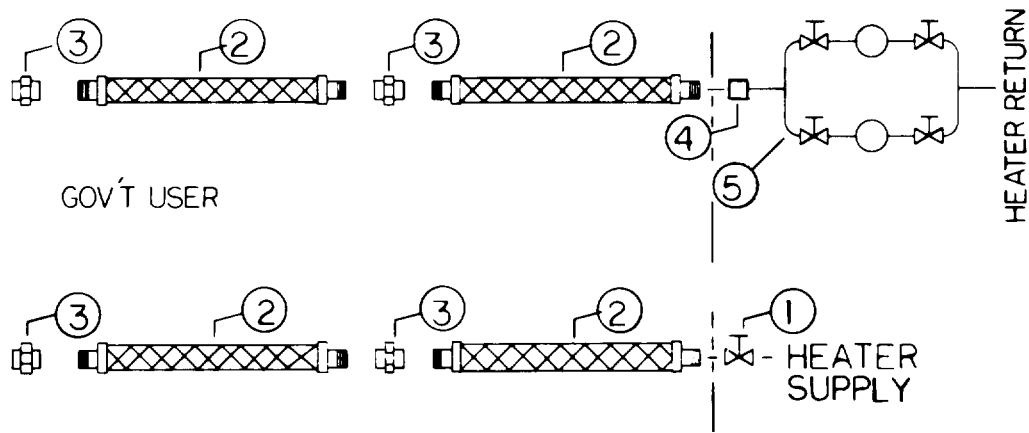

Figure 9. ASSEMBLY OF HEAT TRANSFER HOSE & UNIONS,
- b. Steel Threaded Unions. The four steel unions are used to connect the four liquid transfer hoses to the external user and the hot fluid heater. Refer to Fig. 9 and install as required.
2. Install the four unions on the four heat transfer hoses, as shown in Figure 9.
3. Connect two heat transfer hoses together as shown in Figure 9.
4. Connect threaded end of one heat transfer hose to 2" coupling, hot oil heater return and threaded end of one heat transfer hose to supply valve A on hot oil heater. Refer to Figure 9.
5. Remove ½ of steel union item 3 from each hot oil hose assembly and connect to user.
- e. **Liquid Transfer Hoses** The four liquid transfer hoses are used to connect the hot oil heater with the external system requiring heat. They can be used singly or linked together according to the individual application. Two separate liquid transfer hose systems must be installed: one to carry the heated transfer oil to the external systems, and one to return the cooled oil to the hot oil heater for reheating. Refer to Figure 9 and install the liquid transfer hoses.
4. See that the liquid transfer hoses are properly installed and connected (Figure 9).